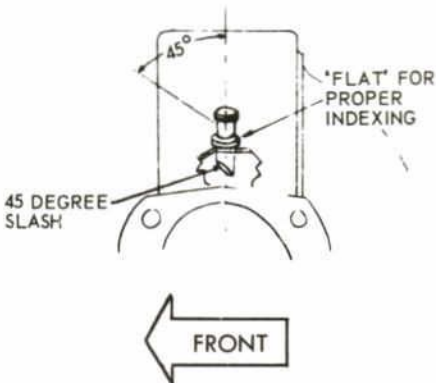

Figure 1—Rear Axle Vent Installation
1. (Figure 1) This straight design vent is properly positioned by locating the external flat midway between the right rear wheel and the rear of the axle housing.